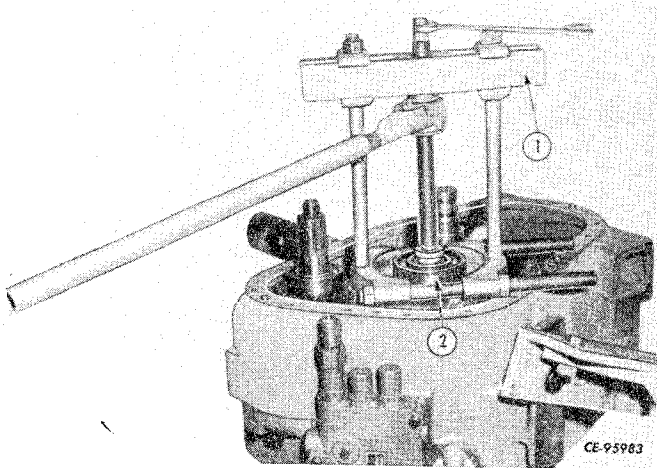

Figure 4-32
With a suitable bearing puller (1, Fig. 4-32), remove the bearing (2) from the countershaft.